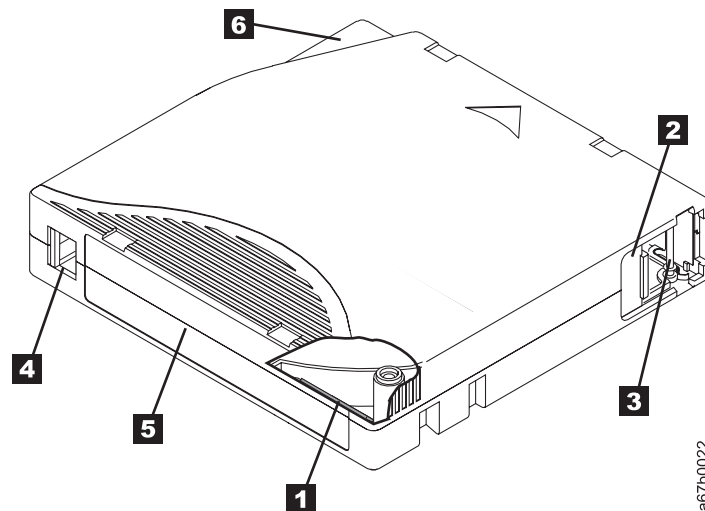

Figure 64. The IBM TotalStorage LTO Ultrium 400 GB Data Cartridge
Figure 64 shows the IBM TotalStorage LTO Ultrium 400 GB Data Cartridge and its components.
The cartridge door (**2** in Figure 64 on page 163) protects the tape from contamination when the cartridge is out of the drive. Behind the door, the tape is attached to a leader pin (**3**). When the cartridge is inserted into the drive, a threading mechanism pulls the pin (and tape) out of the cartridge, across the drive head, and onto a non-removable take-up reel. The head can then read or write data from or to the tape.
When attaching a bar code label to a tape cartridge, place the label only in the recessed label area (see **5** in Figure 64 on page 163). A label that extends outside of the recessed area can cause loading problems in the drive.
- Position the label within the recessed label area (see **5** in Figure 64 on page 163).